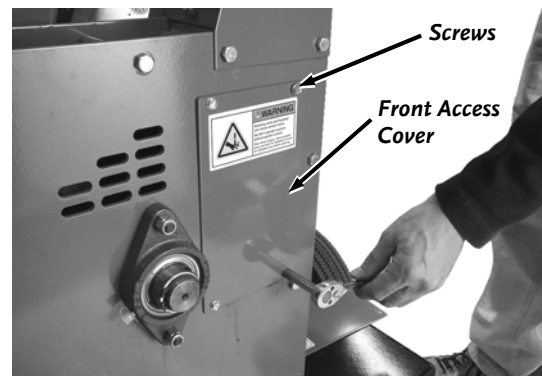

Figure 33
1. Remove the four Screws that secure the Front Access Cover with a 5/16" wrench and remove the Access Cover (**Figure 33**).